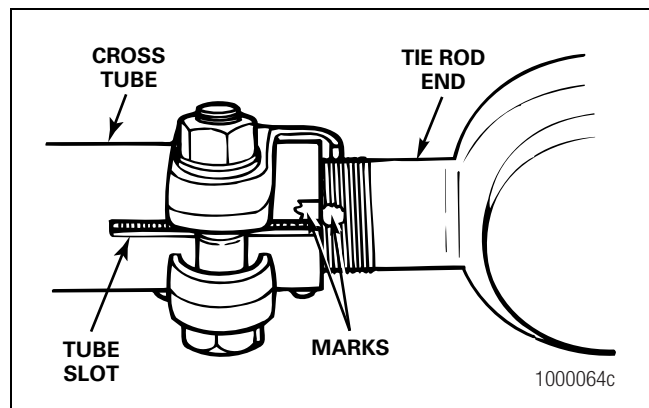

Figure 6.45
1. If the tie rods have been removed, reinstall the tie rod ends into the cross tube to the position marked during removal. Thread the ends equally into the cross tube to the required length. Figure 6.45.